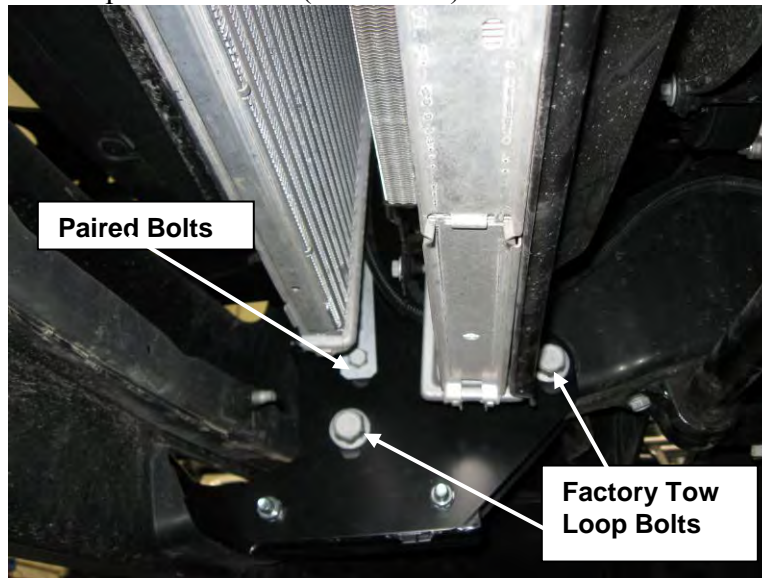

Figure 9: Large Frame Carrier: Bolt Positions.
9. Tighten all 4 nuts on the paired bolts and torque to 50 lb. ft. (67.8 N-m). See **Figure 9**.
11. Tighten the 4 remaining bolts at the bottom of the frame extension brackets and torque to 50 lb. ft. (67.8 N-m). See **Figure 9**.